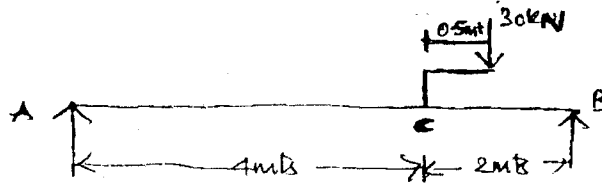

Fig.Q5(b)
- b. For the beam shown in Fig.Q5(b), determine the deflection at C. Take  $EI = 10,000$  kN-m2. (10 Marks)